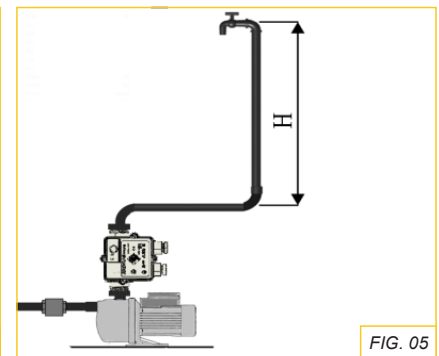

FIG. 05
Fluomac® can be installed either in a vertical or a horizontal position, anywhere between the pump outlet and the first outlet (tap). Care must be taken to ensure that the direction of the arrow on the cover is in the same direction of the flow of the fluid within the pipes (fig. 05).
- If the tap situated at the highest point is more than 15 metres above the Fluomac® (fig. 05 – Hmax: 30 mt)